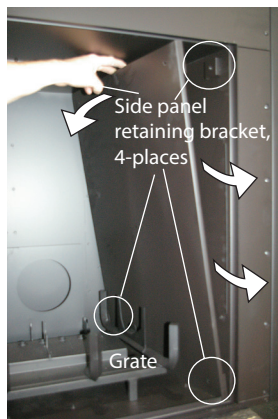

Figure 24a. (Removing interior stand-off panels).
**Step 2.** Tilt the panel out from the top, and remove the panel from the firebox. Pull out of the firebox straight, toward you without hitting the Grate or panel Retaining brackets, **Figure 24a.**